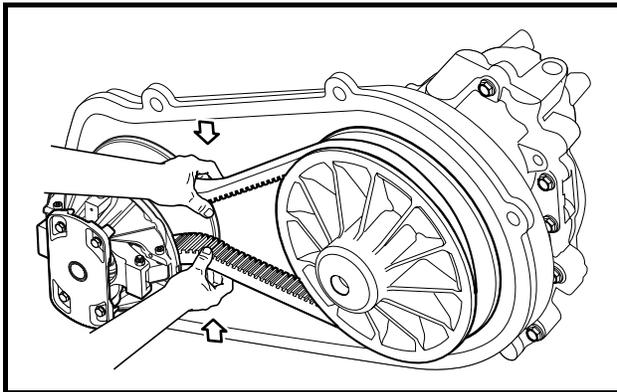

Figure 13a-32 Drive Belt Removal
5. Grasp the belt midway between the drive and driven clutches, and squeeze the belt together as tightly as possible (**Figure 13a-32, Page 13a-31**).